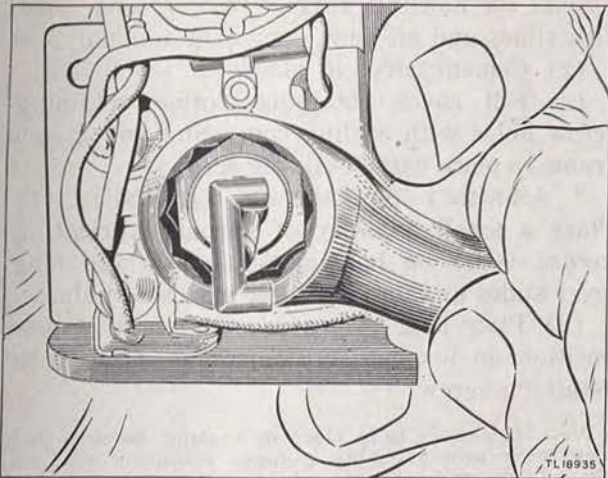

Figure 53. Removal of on-off switch retainer nut, Radio Receiver and Transmitter BC-611-(\*).
*a. REMOVAL.* (1) Remove antenna guide and antenna as directed in paragraph 36*a*.
(2) Remove audio-output coil as directed in paragraph 46*a*, except do not cut cable lacing (step 5) or unsolder red lead from change-over switch soldering lug No. 17 (step 6).
(3) Unsolder leads to switch at switch soldering lugs.
(4) Bend B— solder lug flat.
(5) Unscrew on-off switch retainer nut with  $\frac{9}{16}$ -inch twelve-point box wrench.
*b. REPLACEMENT.* (1) Place switch in chassis in proper position as shown in figure 25, and fasten in place with switch retainer nut. (See fig. 53.)
(2) Bend B— solder lug into proper position.